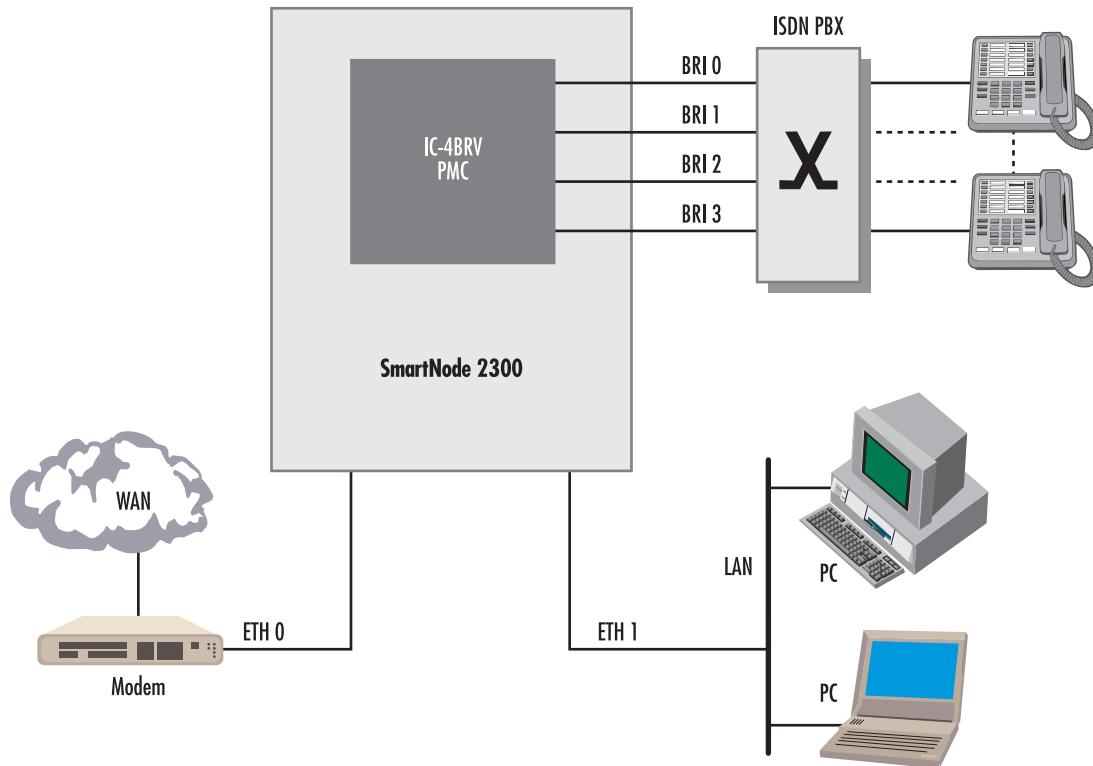

Figure 31. SmartNode 2000-Series device connected to a PBX via four BRI ports
In figure 31 the SmartNode 2000 series with an optional IC-4BRV interface card installed is used as a voice gateway and IP router in a company branch office.
- Figure 31 on page 52